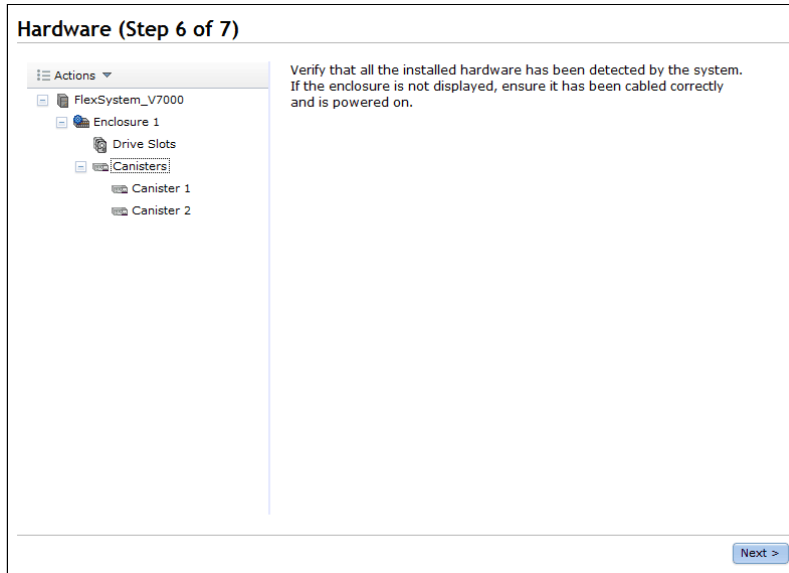

Figure 4-19 Verify hardware
8. Verify that all hardware has been detected by the system correctly as shown in Figure 4-19.